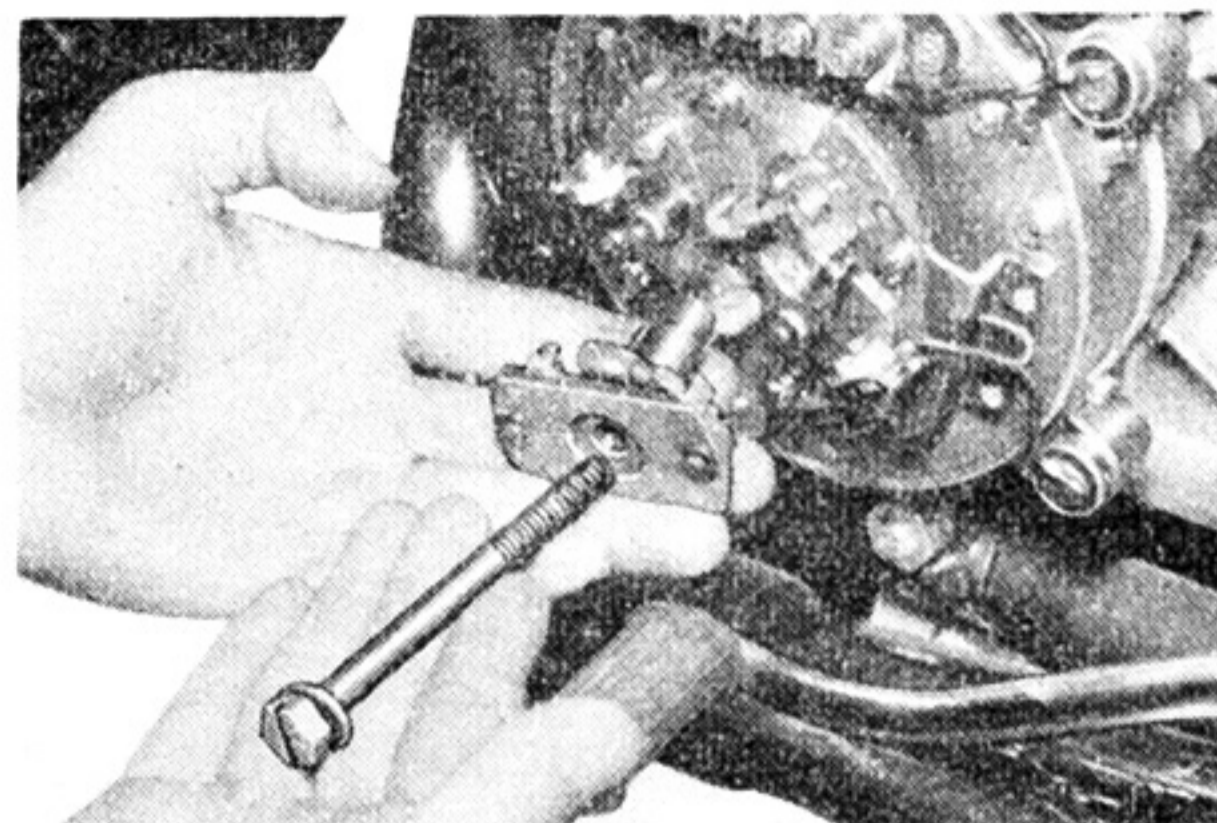

Fig. 3-1-4
(1) Remove the governor. (Fig. 3-1-4)